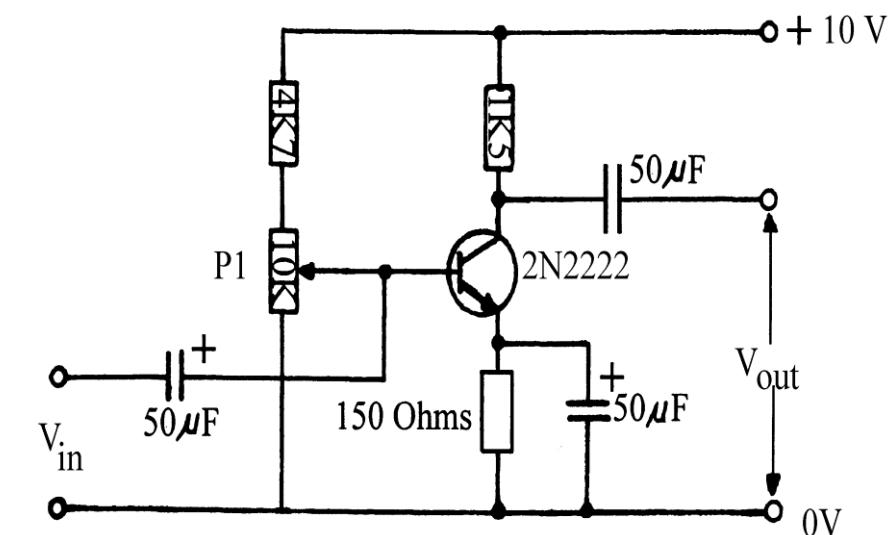

Figure 5
- Construct the circuit shown in Fig. 5 on the next page.